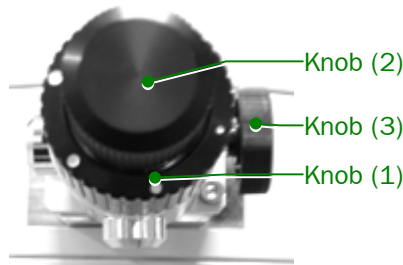

Fig. 5.20 CL Aperture knobs
The CL aperture (☞ Fig.5.20) is used to control illumination area, angle, and brightness on the specimen. Larger apertures give larger illumination angles and brighter illumination.
1. Set the microscope to MAG mode; adjust the BRIGHTNESS knob (L1-⑥) for the smallest possible beam spot on the fluorescent screen; then center the beam on the screen using the SHIFT knobs (L1-⑧, R1-③).
2. Insert the largest aperture into the column using the aperture knob (1) (☞ Fig. 5.20).